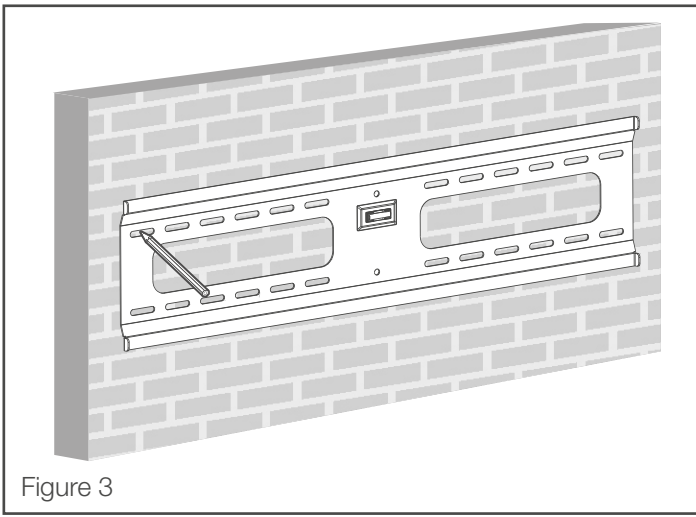
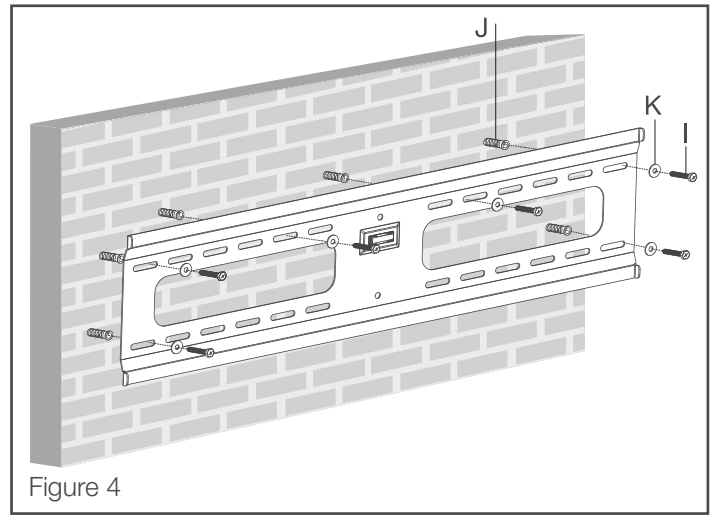

Figure 3
Figure 4
1. Mark a minimum of 4 fixing holes (preferably 6) using the Wall Plate as a guide - position 2 at either end of the Wall Plate (see Figure 3). Ensure plate is level.
3. Fully insert the concrete anchors (J) into the drill holes. Tap in with hammer if required.
4. Attach the Wall Plate by inserting the lag bolts (I) through the D6 washers (K) into each concrete anchor (J) (see Figure 4). Do not over tighten.